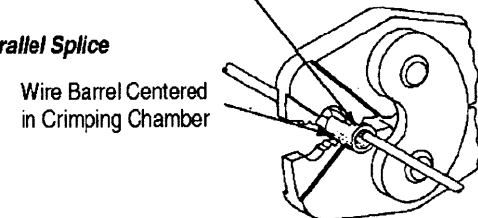

Figure 3
2. Center the terminal or splice wire barrel in the appropriate crimping chamber. For terminals, make sure that the flat side of the tongue faces the anvil; for splices, make sure that the brazed seam (when visible) is toward the indenter. See Figure 3.